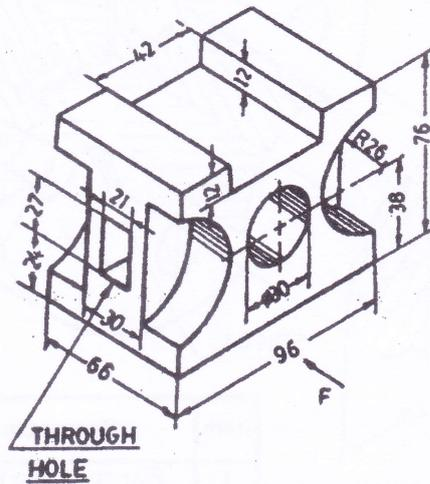

Figure 1: Cast iron block
- I. Two vertical plates each 30 mm thick are bolted by means of a M20 hexagonal bolt, a nut and a washer. Take the length of the bolt as 90 mm and the length of the thread of the bolt as 40 mm. Show: (20)
- II. Draw the following views of the cast iron block given in the figure 1: (20)